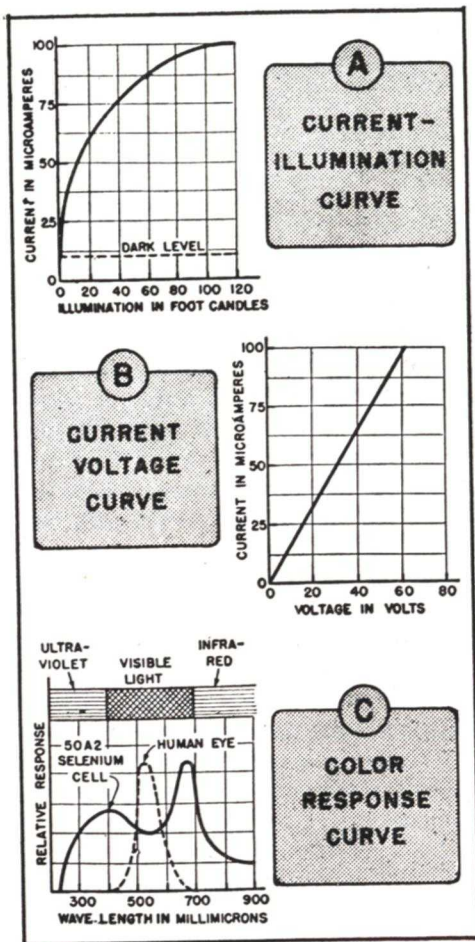

FIG. 12. The Acousto-Lite Laboratories 50A2 selenium cell was used in making these curves.
► The cell whose characteristics are given in Fig. 12 belongs in this last class; it is highly sensitive to changes